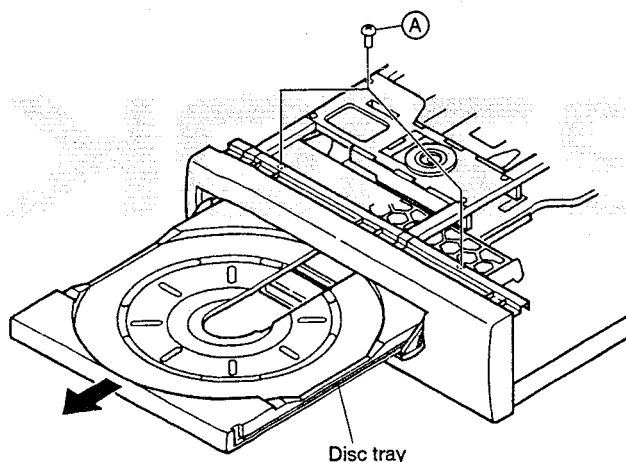
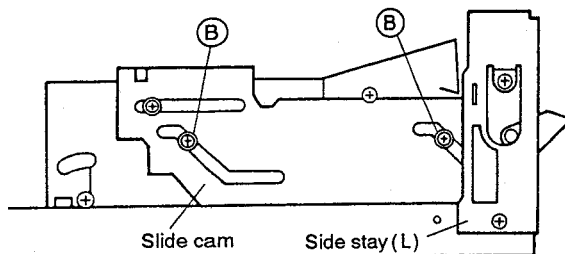

Fig. 1
Fig. 2
- ① Remove two screws (A) for tray stopper. (Fig. 1)
- ② Remove the front panel. (by loosening three screws at the top side and a fixing screw of the earth lead.)
- ③ Remove two fixing screws from the slide cam on the left side. (Fig. 2)
- ③ Insert so that the first tooth of the straight gear on the rear of the disc tray meshes with the chipped gear teeth of the roller plate assembly.
- ④ Tighten two screws ㉕ for disc tray stopper. (Fig.1)
- ① Insert a screwdriver into the chassis hole near a strain relief through the back of the base chassis and remove the strain relief stop ring.